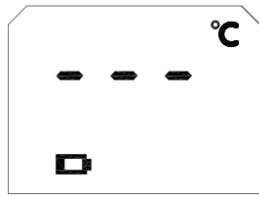
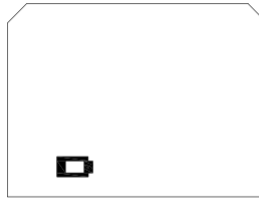

Fig.16
Fig.17
- When the screen displays as shown in Figure 16, it means that the battery has been already in a low voltage state, but it can still meet the measurement. It is recommended to replace the battery as soon as possible; if the screen displays as shown in Figure 17, the thermometer will automatically shut down, and please replace the battery before use.